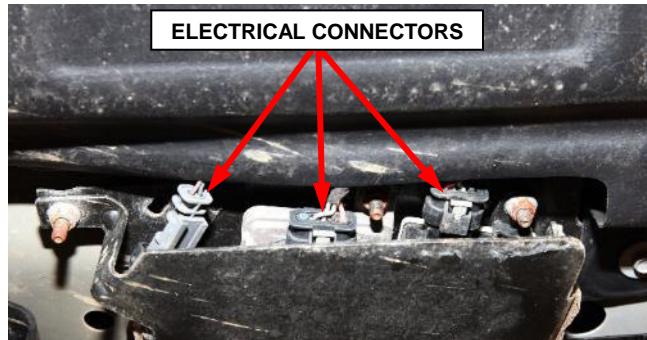

Figure 42 – Electrical Connectors
- a. Disconnect the electrical connectors for the exhaust temperature sensor, Particulate (PM) sensor, and NOx sensor (Figure 42).